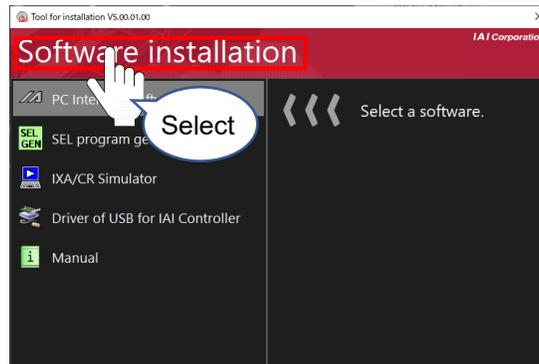

Fig. 1.4 Installation Screen
2) When the tool for installation screen (Fig. 1.4) is displayed, select "PC Interface Software for XSEL."